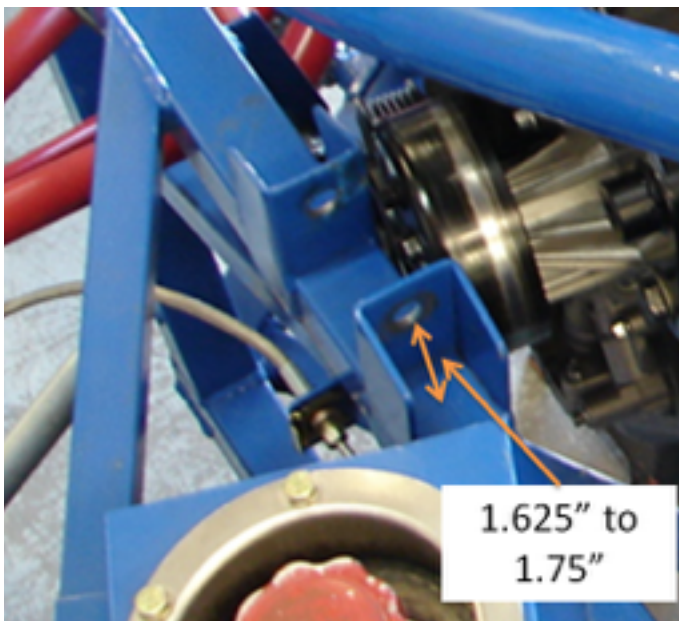

Figure 2 – Right Side Motor Mount
7. Right side frame motor mount (The one beside the cam/cam belt): With the motor and mount removed, measure the distance from the top of the frame rail to the center of the engine mount hole. This distance should be between 1.625" and 1.75". If it is less than this the mount will need to be removed and replaced. A new mount # 391307 (2 required) can be installed by a CSR or anyone with the ability to weld steel. See Fig 2
8. Remove the main battery ground wire, the battery's negative to ground, and put aside. You will use two (2) - 12" to 14" inch pieces to make updated ground leads in a later step.